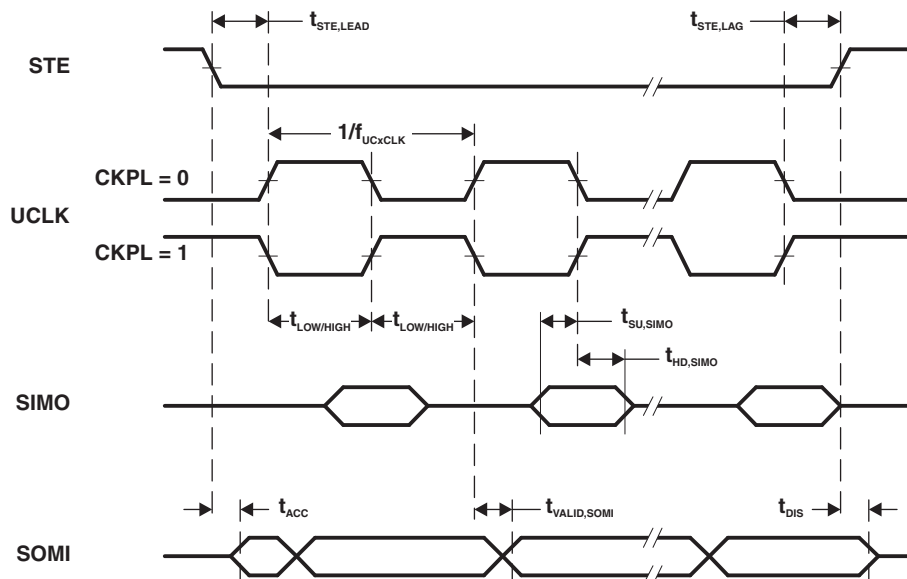
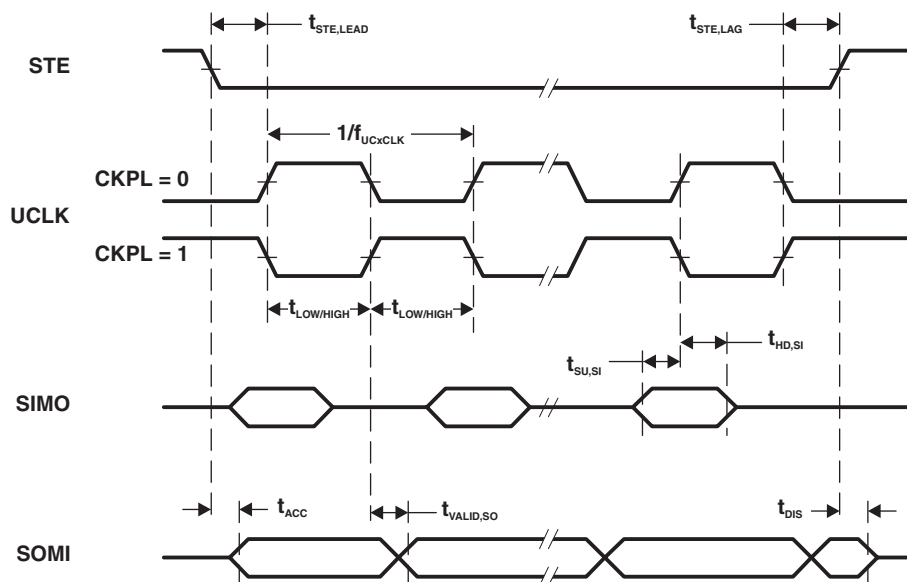

Figure 5-14. SPI Slave Mode, CKPH = 0
Figure 5-15. SPI Slave Mode, CKPH = 1
(1) $f_{UCXCLK} = 1/2t_{LO/HI}$ with $t_{LO/HI} \geq \max(t_{VALID,MO(Master)} + t_{SU,SI(eUSCI)}, t_{SU,MI(Master)} + t_{VALID,SO(eUSCI)})$.For the master parameters $t_{SU,MI(Master)}$ and $t_{VALID,MO(Master)}$, see the SPI parameters of the attached master.(2) Specifies the time to drive the next valid data to the SOMI output after the output changing UCLK clock edge. Refer to the timing diagrams in Figure 5-14 and Figure 5-15.(3) Specifies how long data on the SOMI output is valid after the output changing UCLK clock edge. Refer to the timing diagrams in Figure 5-14 and Figure 5-15.